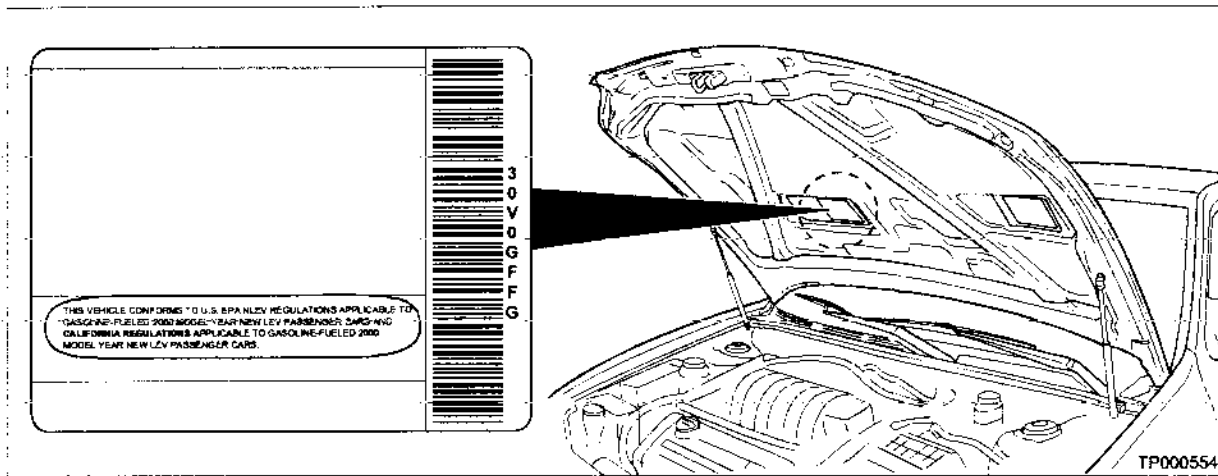

Figure 1
- For **2000 Maxima vehicles**, you need to determine if the vehicle is certified for California or Federal emissions. Check the Emissions Certification Label on the underside of the engine hood to verify if the certificate is for California emissions (see Figure 1). If there is no mention of California on the label, the vehicle is certified for Federal emissions.